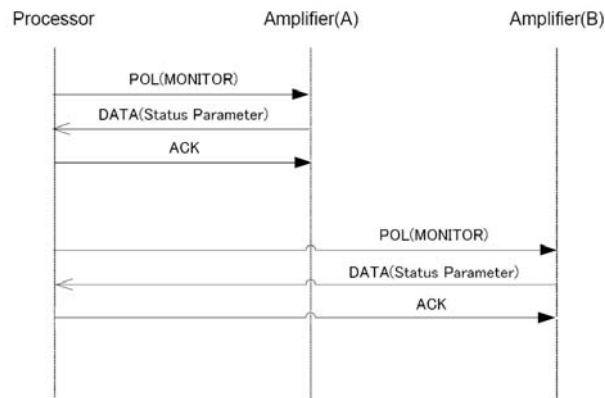

Figure 2.25: Using the POL instruction after the SEL instruction
- Default power up is amplifier command 0x87, ie a global read command. If the host processor simply POL's the amplifier (see Figure 2.25 below), then the responding DATA will contain all possible amplifier settings and metrics, ie 242 bytes of data (if all 8 possible modules are present). The 242 bytes are made up of 224 bytes (28 bytes x 8 modules) from Table 2.3, plus 16 bytes from Table 2.4, plus 2 bytes defining which modules are present.